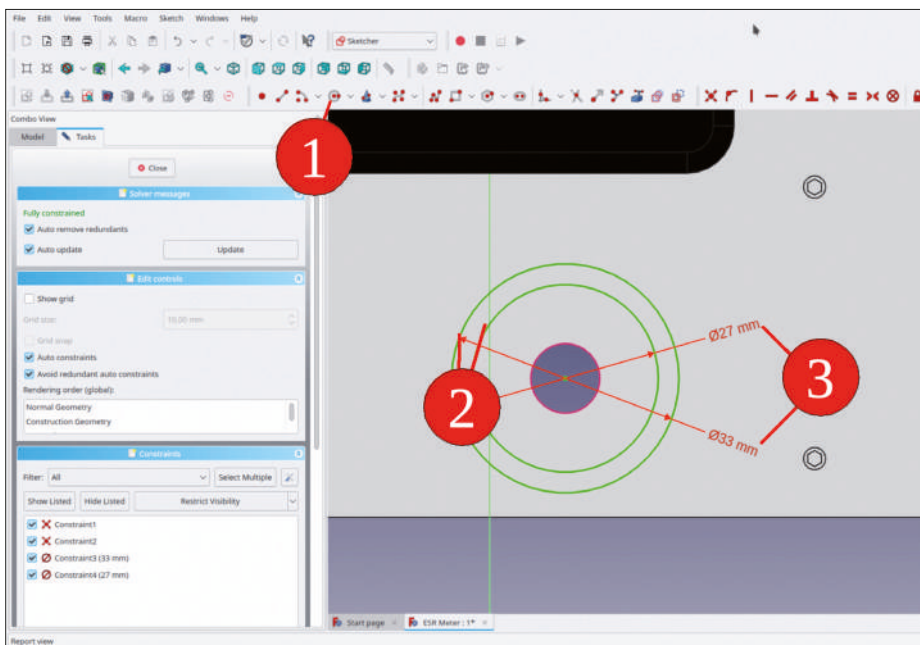

Figure 8-18
4. As was done for the rotary switch, draw two circles, which are centered on the violet construction circle, and constrain their diameters to 27 mm and 33 mm (Figure 8-18).